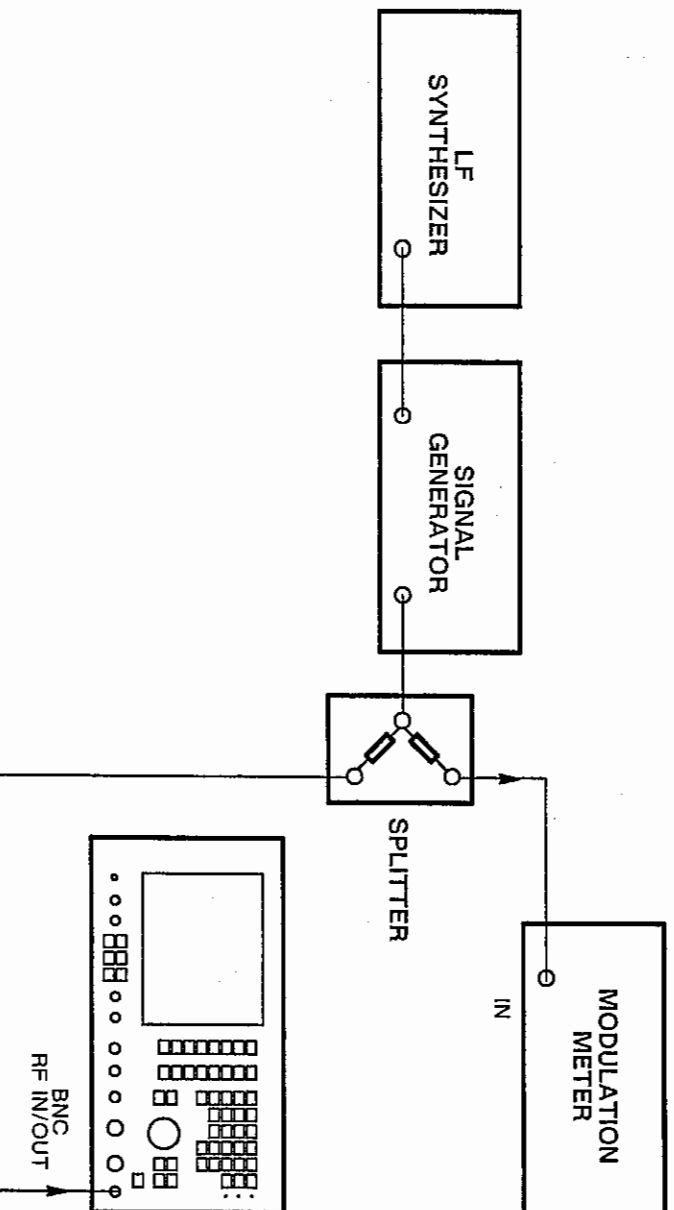

Fig. 6-5 Test equipment connections for modulation meter AM depth and FM deviation
- (3) Set the signal generator carrier frequency to 100 MHz, level to 7 dBm, 80% AM and 1 kHz internal modulating frequency.
- (4) Set the modulation meter to AM in a 0.3 to 3.4 kHz bandwidth.
- (5) Check that the MOD LEVEL is the same as the modulation meter reading  $\pm 5\%$   $\pm 1$  digit. Check that the AM bar chart indicates the AM being applied.
- (6) Repeat (3) and (5) for other modulation depths from 0 to 90% and other carrier frequencies between 1.5 and 100 MHz.
- (7) Repeat (3) and (5) for other modulation depths from 0 to 80% and other carrier frequencies between 1.5 and 400 MHz.
- (8) Connect the LF generator to the signal generator modulation input. See Fig. 6-5.
- (9) On the 2955A, set the FILTER to 15 kHz LOW PASS.
- (10) Set the signal generator carrier frequency to 100 MHz, level to 7 dBm and 80% external AM at a 10 kHz modulating frequency (from the LF generator).
- (11) Set the modulation meter to AM in a 30 Hz to 50 kHz bandwidth.
- (12) Set the synthesized LF generator to give a 10 kHz sine wave. Adjust the level to suit the external modulation input of the signal generator.
- (13) Check that the MOD LEVEL is the same as the modulation meter reading  $\pm 8.5\%$   $\pm 1$  digit.
- (14) Repeat (12) and (13) for other modulating frequencies between 50 Hz and 10 kHz.